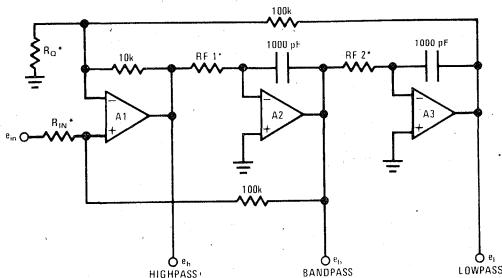

FIGURE 3. Non-Inverting Input ($Q < Q_{MIN}$. See Q Tuning Section)
b) Non-inverting input (Figure 3) transfer equations are: